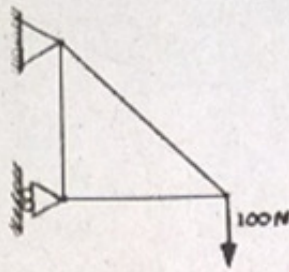

Fig. Q. 13 (a)
13. (a) Analyse the truss shown in Fig. Q. 13 (a) using finite element method. AE is constant.